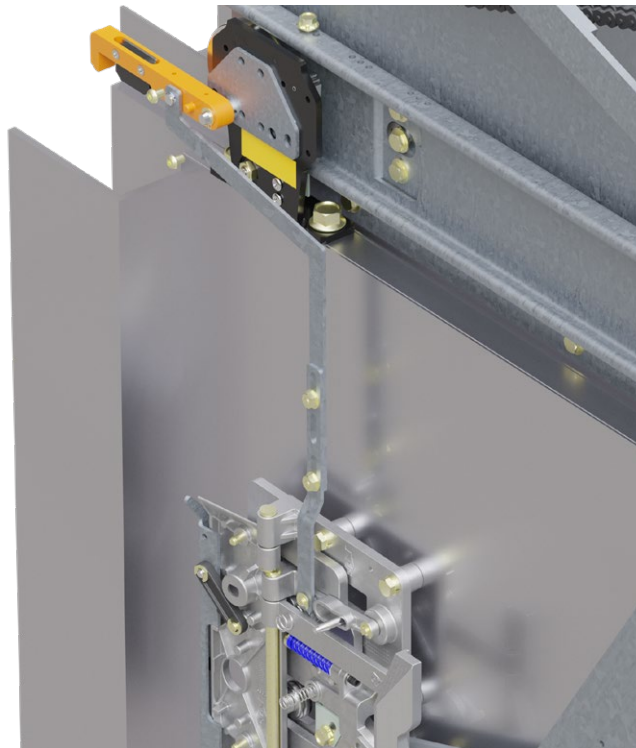

Figure 29: Lift Links
3. Attach keeper to the clutch with the upper and lower links as shown in **Figure 29**.